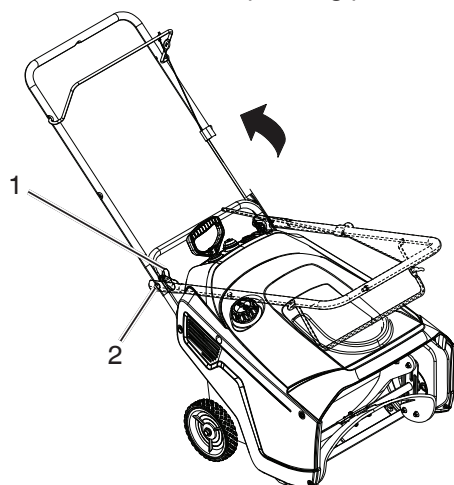

Figure 2
1. Loosen the two handle knobs and pull out the two handle bolts until you can move the handle freely and rotate the handle to the operating position (Figure 2).